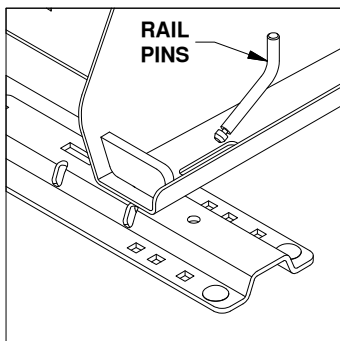

Figure B2:
2. **Insert pins.** Locate the four rail pins and hairpins. Insert each pin into the long slots in the base and through the rails. Lock each pin into place with a hairpin, see Figures B2 & B3.